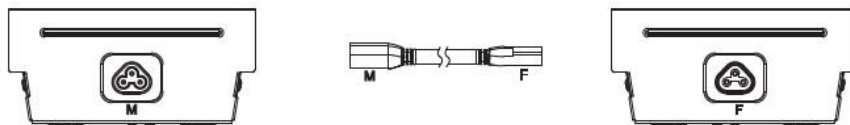

Figure 13
- Use included linking cable (FF) in situations where lights s/b apart, plug linking cable into end of wraparound light and connect other end to next light. Use included linking attachment (EE) when lights are mounted end to end.
**NOTE:** Linking cable (or linking attachment) will only fit one end of wraparound light. Be sure to match up "F" of connector with "F" of light and "M" of connector with "M" of light. For the first connected product, please ensure the connector connects to the "M" side of the product. (Figure 13)